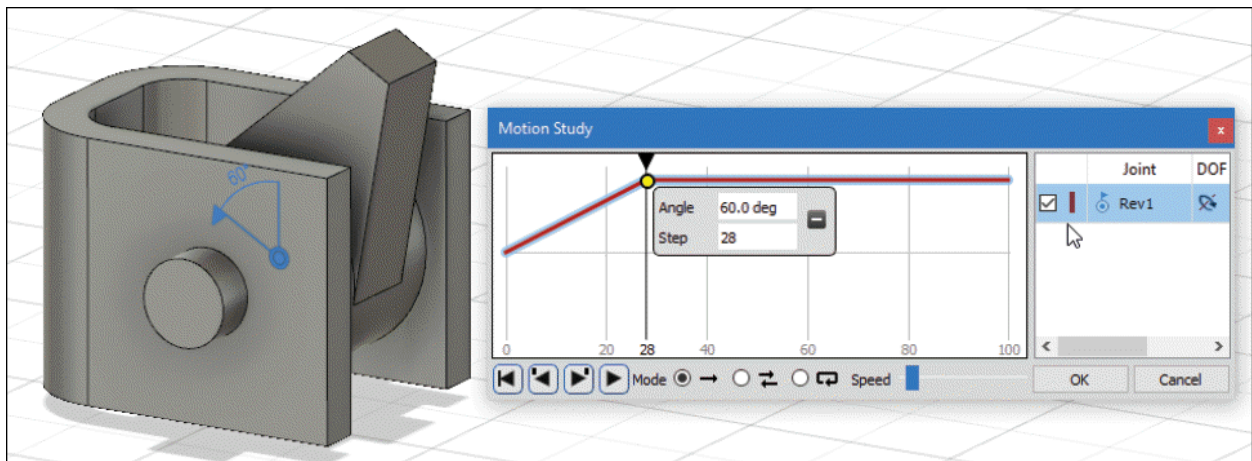

Figure-59. Adjusting points for animation
- After selecting joint, create the points of motion curve as required by clicking in the graph line of motion; refer to Figure-59.